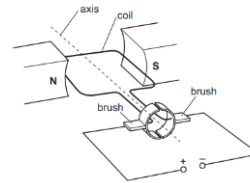

Figure 4: DC motor
- **Figure 4** shows an illustration of a DC motor.